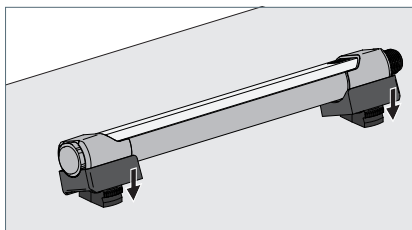

Fig. 5: Mounting the luminaire to the fastening elements
- ▶ Place the luminaire together with the mounted holders onto the fastening elements and press the luminaire downward until the holders snap into the fastening elements, see Fig. 5.